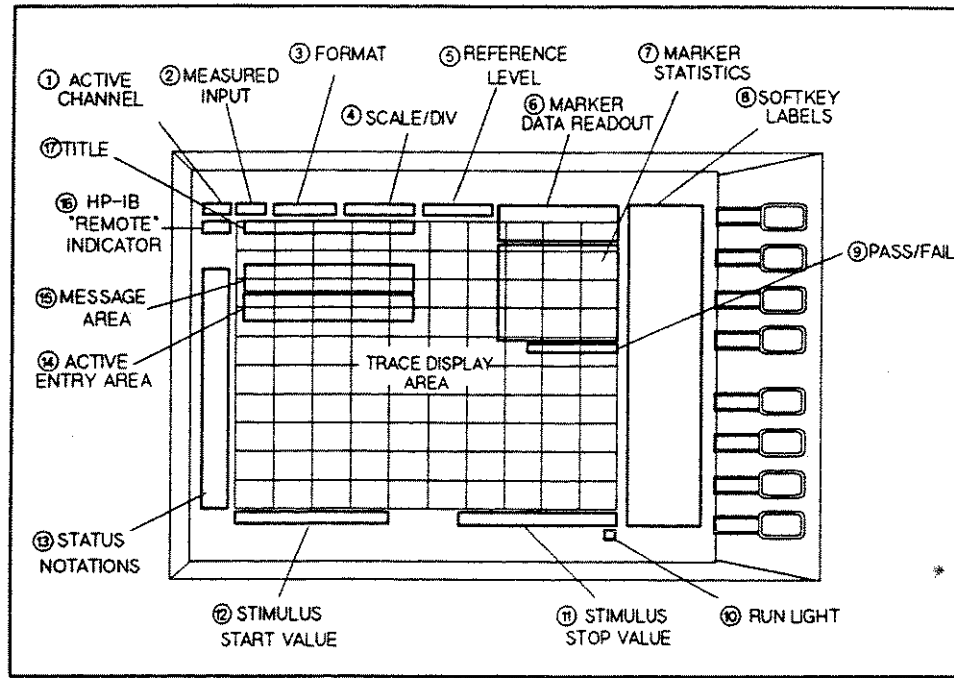

Figure 5-2. CRT Display (Single Channel, Cartesian Format)
2. *CRT display*. This is used for display of data traces, measurement annotation, softkey labels, and other information. The display is divided into specific information areas, illustrated in Figure 5-2.
The CRT displays the grid on which the measurement data is plotted, the currently selected measurement traces, and other information describing the measurement. Figure 5-2 illustrates the locations of the different CRT information labels, described below.
In addition to the full-screen display shown in Figure 5-2, a split display is available, as described under “**DISPLAY** Key” in Chapter 9. In this case, information labels are provided for each half of the display.